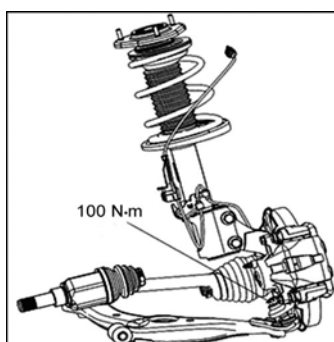

Fig. 2-18
2) Install the front suspension lower arm onto the steering knuckle by nuts. Tightening torque: 100 N·m. Follow Fig. 2-18.